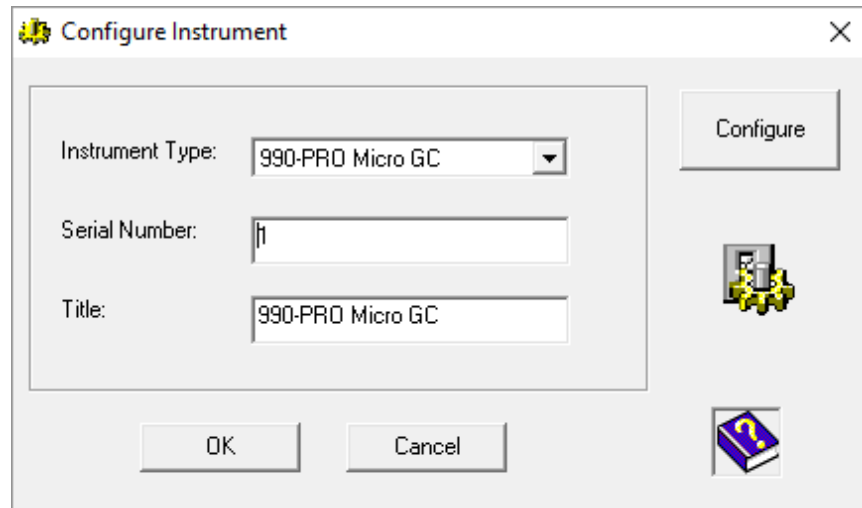

Figure 23. Exit system configuration
- Exit configuration by clicking the **OK** button Figure 23.